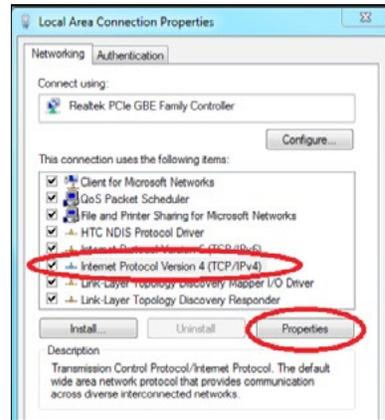

Figure 9: Local Area Connection Properties Window
- 5.) In the *Connection Items List Box* (**Figure 9**), be sure the Internet Protocol Version (TCP/IPv4) is checked. *Click* on Internet Protocol (TCP/IP v4) to highlight it and then *click* **<Properties>**. The *Internet Protocol Properties Window* will appear.